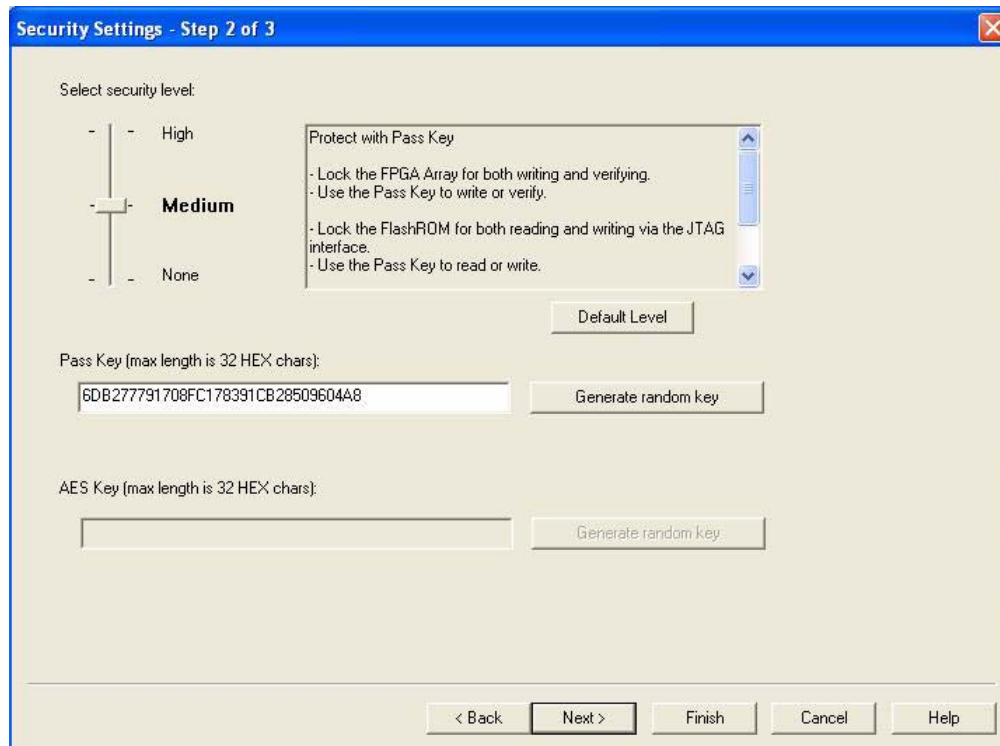

Figure 13-12 • Medium Security Level Selected for Low-Power Flash Devices
- Choose the appropriate security level setting and enter a FlashLock Pass Key. The default is the **Medium** security level (Figure 13-12). Click **Next**.